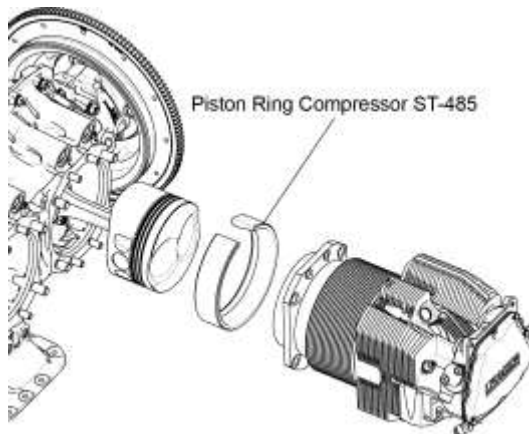

Figure 28
- E.** Use the Piston Ring Compressor (ST-485) to install the cylinders (Figure 28) as follows: